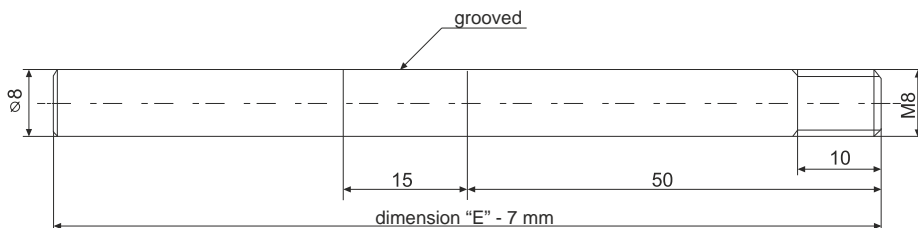
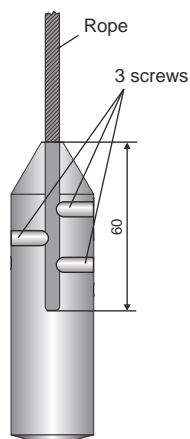

Fig. 15: Drawing of the measuring electrode with marked thread for connection and grooving
Fig. 18: Drawing of the rope electrode weight
1. Heat the place of the threaded joint of the electrode and the electrode holder (see Figs. 15 and 17) using a heat gun to a temperature of approx. 120–150 °C (or 220–250 °C for the high-temperature variant).
2. Shorten the rod electrode with a suitable metal saw and grind the electrode end. The length of this electrode must be by 7 mm shorter than the dimension "E", see Fig. 15. For the rope electrode, the three fixing screws on the weight have to be loosened, and the rope end must be pulled out, see Fig. 18. After shortening, make sure that the length of the rope is appropriate – the rope is recessed in the weight up to approximately 60 mm. For the rope shortening, cutting pliers are the best option. Be careful not to fray the end of the rope.